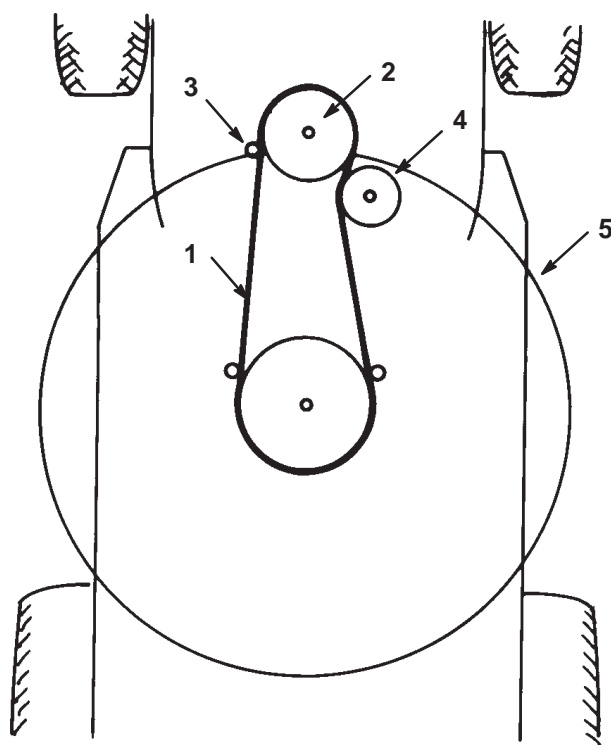

Figure 38
10. Remove the mower belt from the lower engine pulley (Fig. 38). If you are careful, you can flex the belt guide(s) just far enough away from the pulley to remove the belt. If it is too difficult to remove the belt, loosen the bolts and nuts securing the belt guides.
4. Install the mower belt onto the lower engine pulley (Fig. 38). If you are careful, you can flex the belt guide(s) just far enough away from the pulley to install the belt. If it is too difficult to install the belt, loosen the bolts and nuts securing the belt guides.